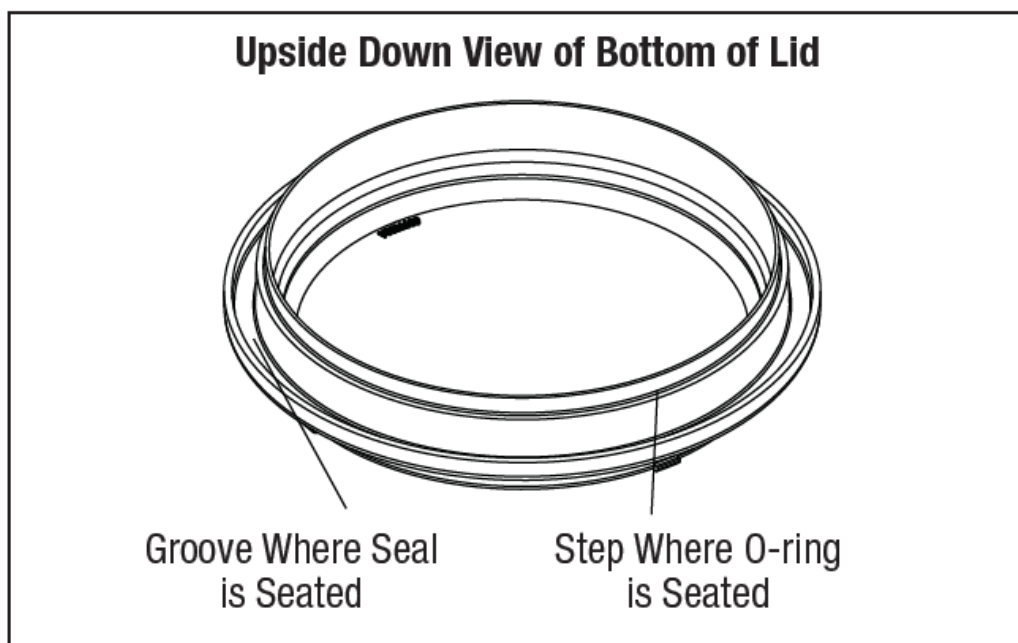

Figure 16. Placement of Blue Pressure Test O-ring
2. Place the blue O-ring on the step located $\frac{1}{4}$ " from the bottom of the lid. See Figure 16.